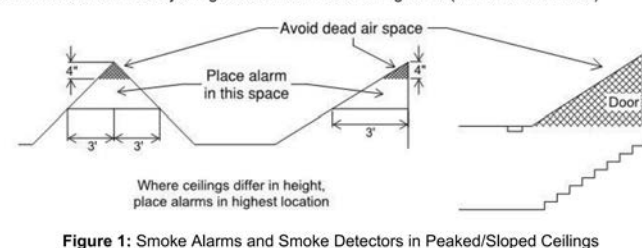
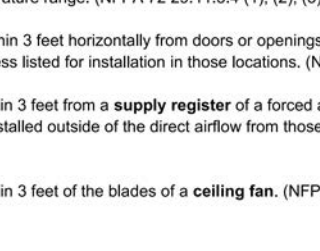

Figure 1: Smoke Alarms and Smoke Detectors in Peaked/Sloped Ceilings
Figure 2: Coffered ceilings or ceilings with soffits.
- Alarms and detectors in a peaked ceiling must be within 3 feet horizontally and no closer than 4 inches vertically to the peak. Avoid placing alarms in dead air spaces; refer to Figure 1. (NFPA 72 29.11.3.1)
- Alarms and detectors mounted on a sloped ceiling having a rise greater than 1-foot in 8-feet horizontally (1/8) shall be located within 36-inches of the high side of the ceiling, but not closer than 4-inches from the adjoining wall surface. Refer to Figure 1. (NFPA 72 29.11.3.2)
- Where stairs lead to other occupiable levels, alarms and detectors shall be located so that smoke rising in the stairway cannot be prevented from reaching the alarm or detector by an intervening door or obstructions. For stairways leading up from a basement, alarms and detectors shall be located on the basement ceiling near the entry to the stairs. Refer to Figure 1. (NFPA 72 29.11.3.4 (10), (11))
- Alarms and detectors installed in rooms with joists or beams shall comply with NFPA 72 17.3.2.4 and 17.6.3. (NFPA 72 29.11.3.4 (13), (14))
- For coffered ceilings (and ceilings with soffits), alarms and detectors shall be installed on the highest portion of the ceiling or on the sloped portion of the ceiling within 12 inches vertically down from the highest point. Refer to Figure 2. Provide the manufacturer's installation instructions to confirm the maximum horizontal distance from the alarm or detector. (NFPA 72 29.11.3.4 (12))
- Do not place alarms within 3 feet from a supply register of a forced air heating or cooling system and it shall be installed outside of the direct airflow from those registers. (NFPA 72 29.8.3.4 (7))
- Do not place alarms within 3 feet of the blades of a ceiling fan. (NFPA 72 29.8.3.4 (8))